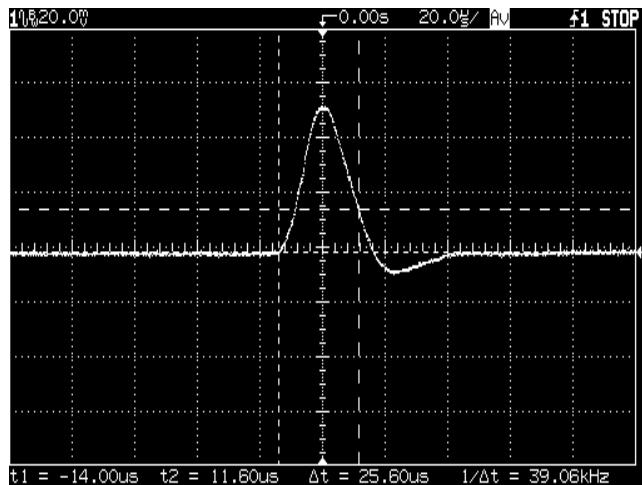

Figure A-4 Transient Response Time
- 5 Adjust the oscilloscope to display transients as shown in Figure A-4. Note that the pulse width ($t_2 - t_1$) of the transients at 15 mV from the base line is no more than 50 μ sec for the output.
- 6 Repeats steps (1) through (5) for the other output.